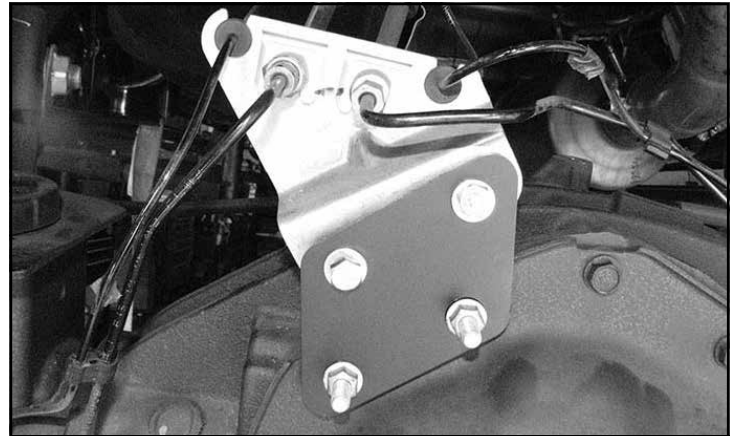

FIGURE 92 - STEP 75
75. Locate FT44307 (Rear brake line bracket) and install using the supplied 5/16" hardware. **SEE FIGURE 92**